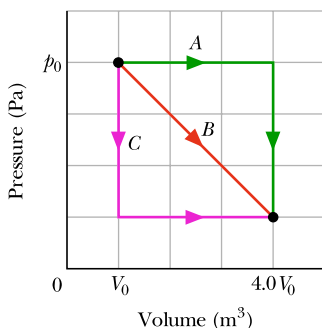

Figure 18.14 Problem 43.
**43 E CALC** In Fig. 18.14, a gas sample expands from